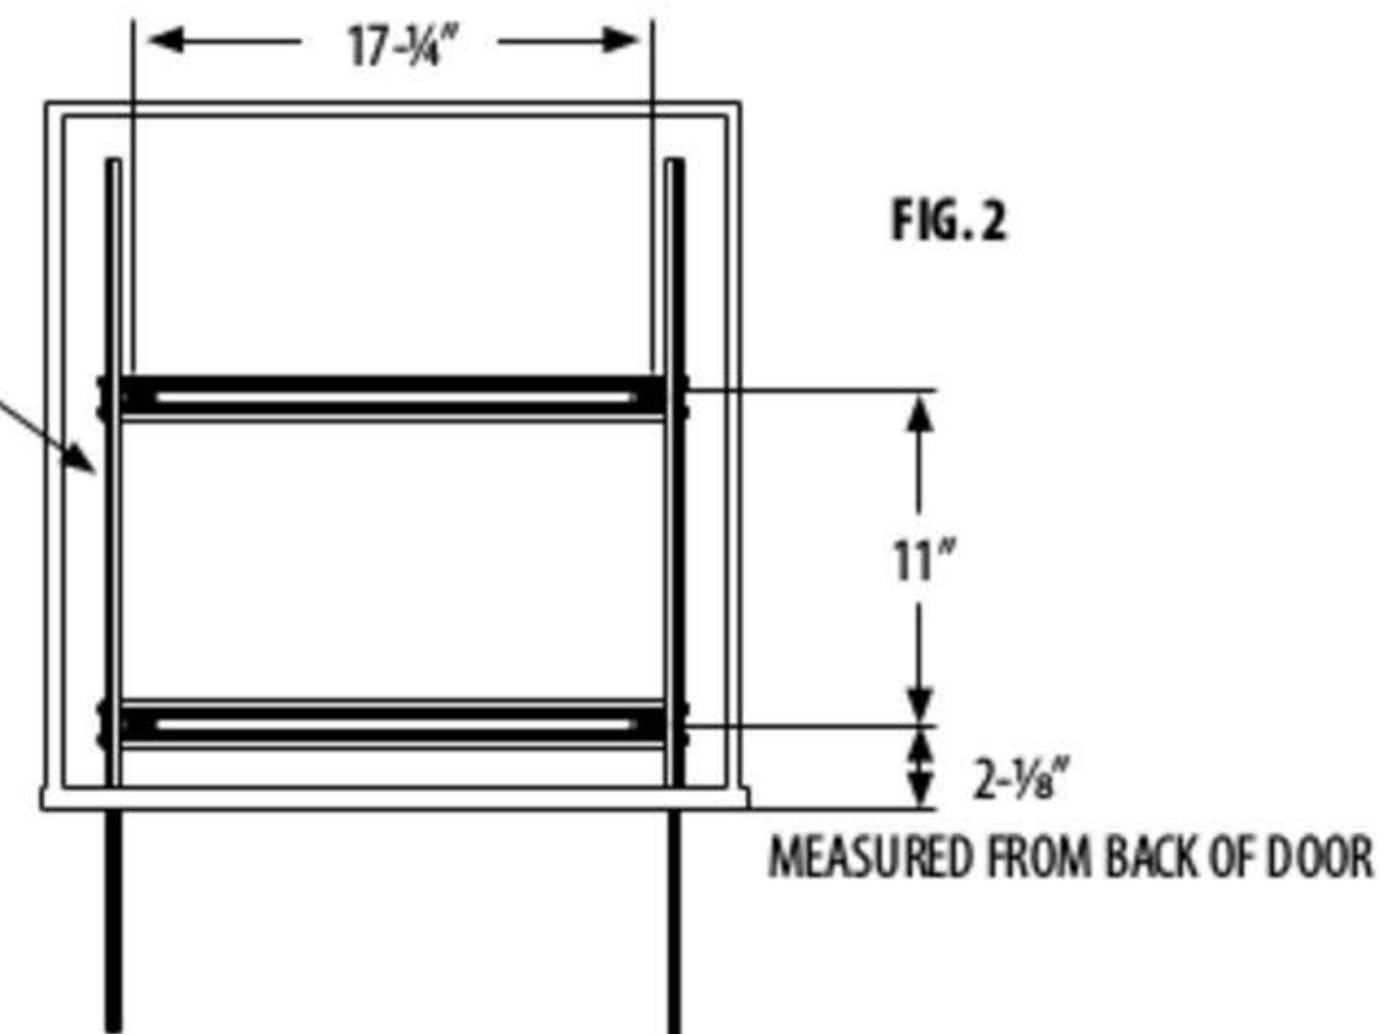

FIG. 2
STEP 2) PREDRILL HOLES TO DIMENSIONS SHOWN AND MOUNT THE BOTTOM CHASSIS WITH THE 4 #8 MOUNTING SCREWS INCLUDED. (FIG. 2)